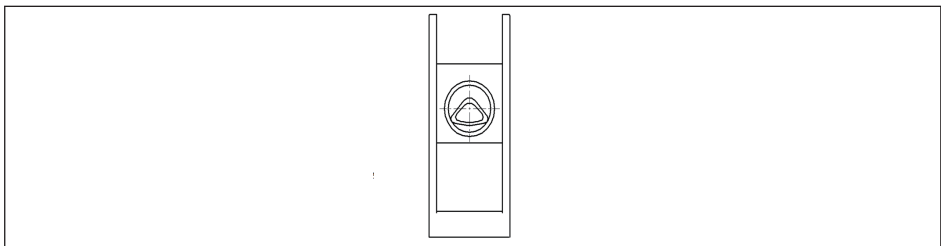

Figure 3-22: The sector wiring direction
4. The sector wiring direction shown as **Figure 3-22**.